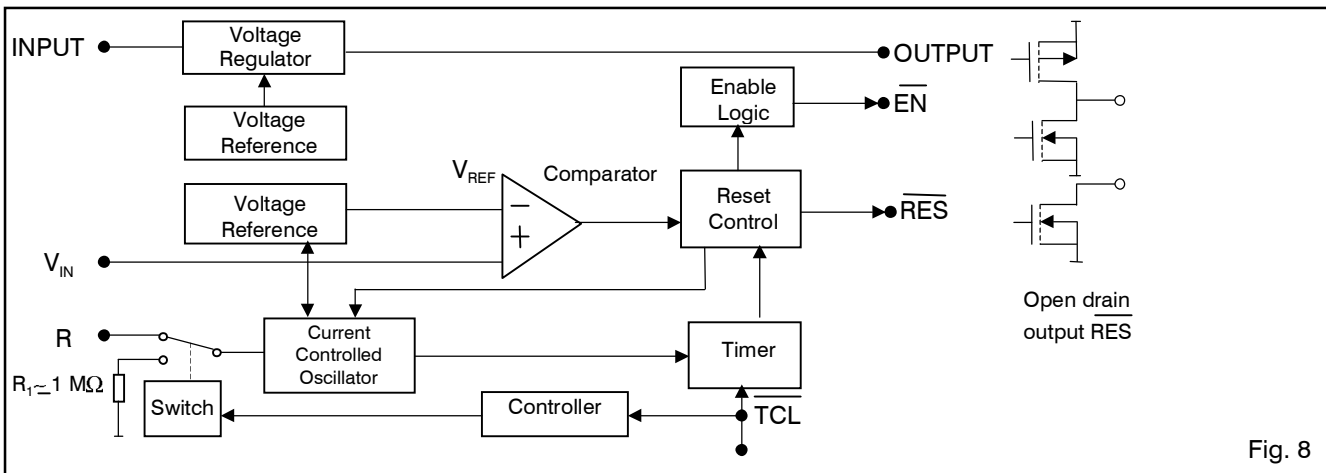

Fig. 8
- 2) Full operation guaranteed. To achieve the load regulation specified in Table 3 a 22 μF capacitor or greater is required on the INPUT, see Fig. 8. The 22 μF must have an effective resistance  $\leq 5 \Omega$  and a resonant frequency above 500 kHz.
- 6) The comparator and the voltage regulator have separate voltage references (see "Block Diagram" Fig. 8).